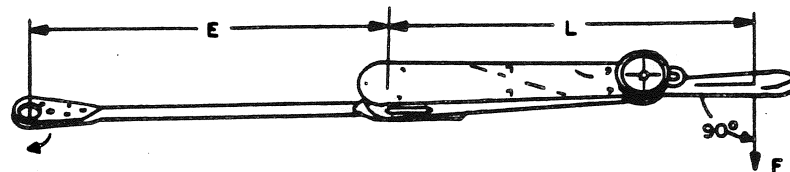

Figure 5.21. Adaptor Attached to Square Drive
11. This adaptor doubles the length and leverage of the torque wrench. The dial will read only 1/2 of the torque. Note "L" and "E" are equal. (See Figure 5.21.)